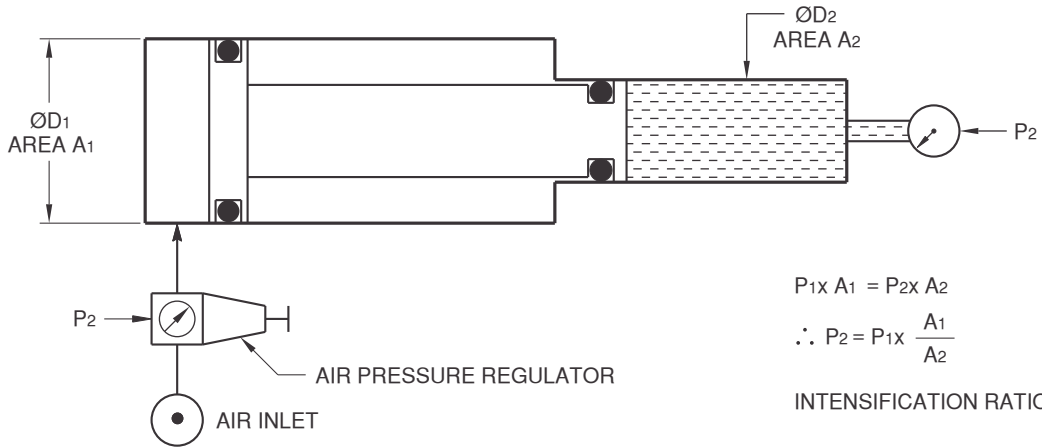
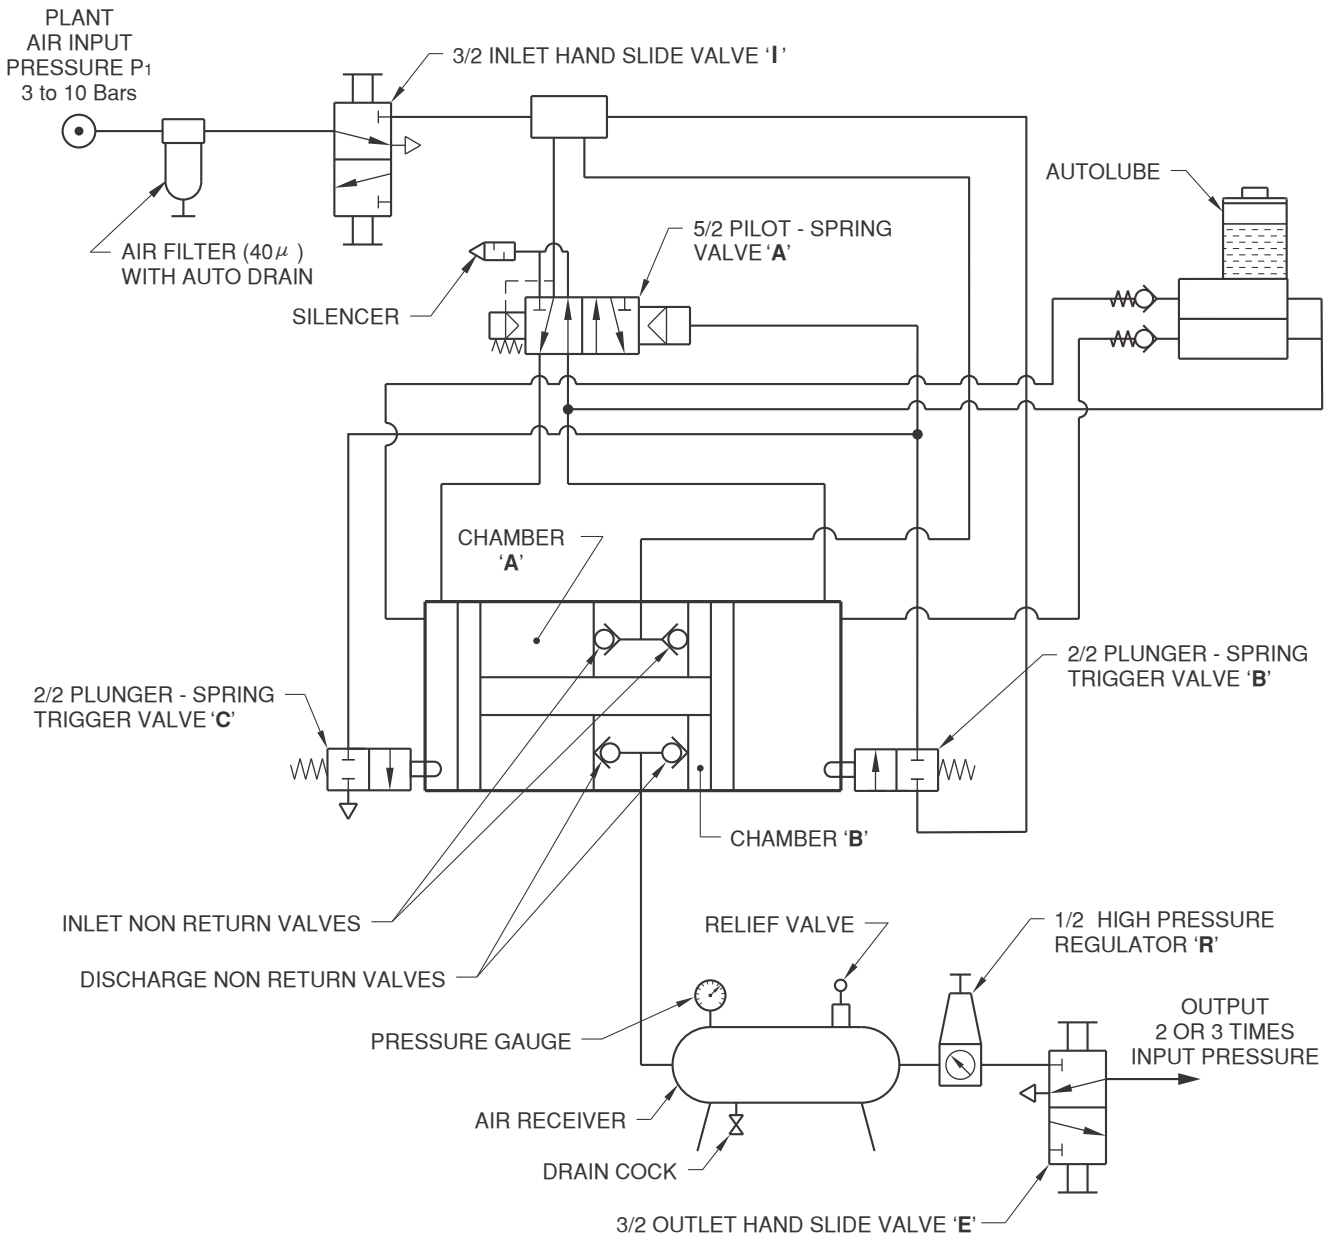

FIG. 2
FIG. 3
4.4.1 The heart of the **MERCURY** air booster consists of an air to air intensifier which is diagrammatically shown in **Fig. 2**.
The intensifier shown in **Fig. 2** is converted into an air booster by automatically reciprocating the pneumatic cylinder by suitable valves as shown in **Fig. 3**.